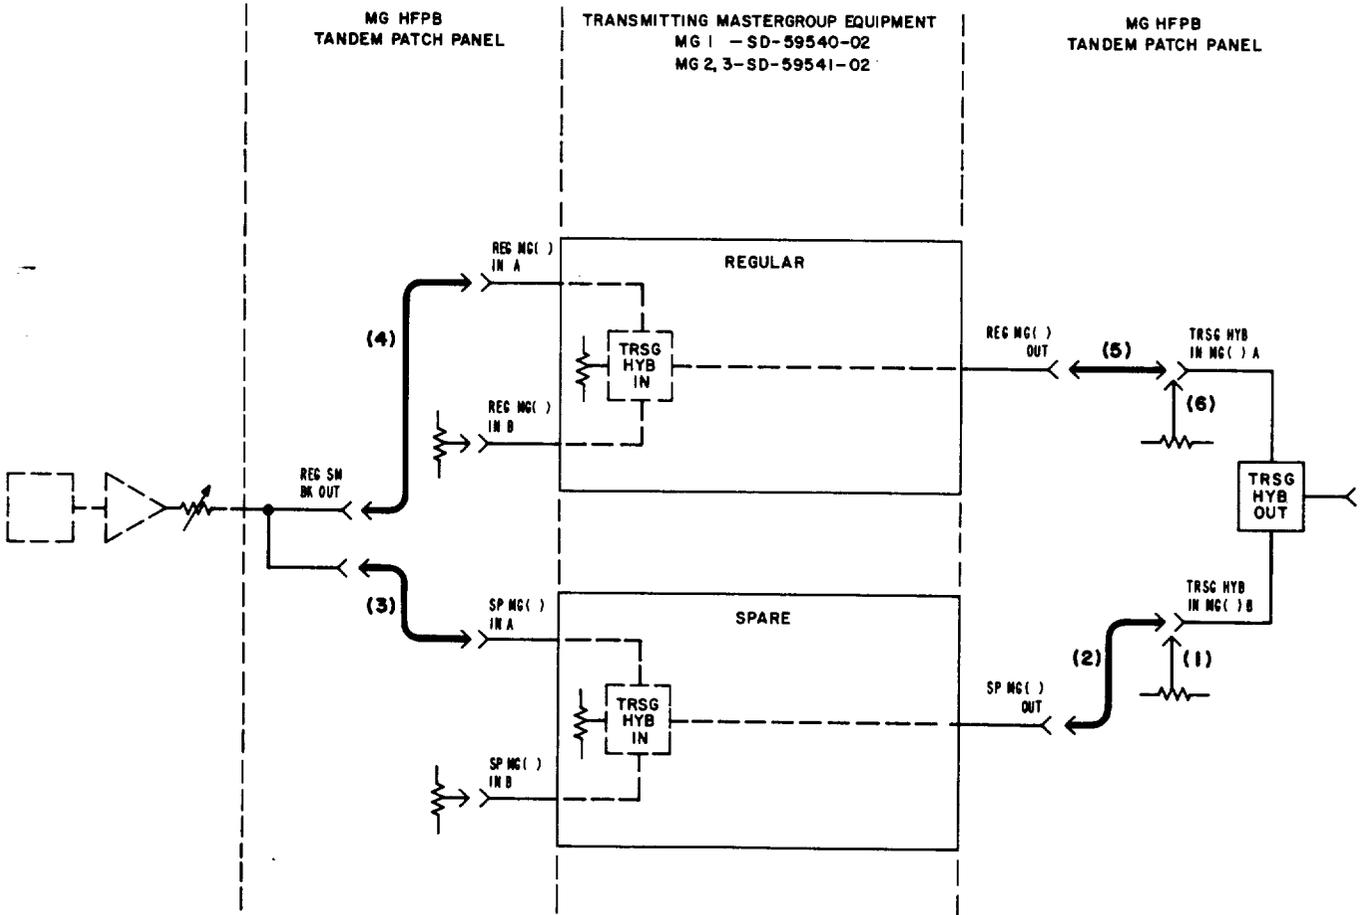

Fig. 3—Removing Regular Equipment From Service—Patching Procedure
7	<p>At the transmitting patch panel (MG-HFPB), perform the following steps:</p> <p>(a) Remove the 358B (75-ohm termination) from the TRSG HYB IN MG() B jack [patch (1), Fig. 3].</p> <p>Note: Jack designations may vary between offices. The new designations (Table A) are used in this procedure.</p>
<div style="text-align: center;">  <p>Fig. 2—Transmitting Patch Jacks (MG-HFPB)</p> <p>(b) Insert a 372A plug (through connection) into the TRSG HYB IN MG() B and SP MG() OUT jacks [patch (2), Fig. 3].</p> <p>(c) Insert a 372A plug into the SP MG() IN A and multiple REG SM BK OUT jacks [patch (3), Fig. 3].</p> </div>
(a) Remove the 372A plug from the REG MG() IN A and multiple REG SM BK OUT jacks [patch (4), Fig. 3].
(c) Remove the 372A plug from the TRSG HYB IN MG() A and REG MG() OUT jacks [patch (5), Fig. 3].
(d) Insert a 358B plug into the TRSG HYB IN MG() A jack [patch (6), Fig. 3].